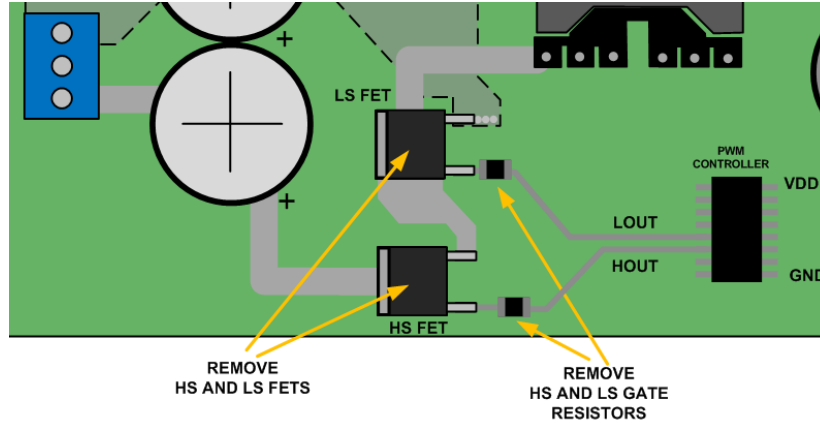

Figure 8. Power Board Preparation
1. Remove HS and LS MOSFETs and HS and LS gate drive resistors from the power board as illustrated in Figure 8.